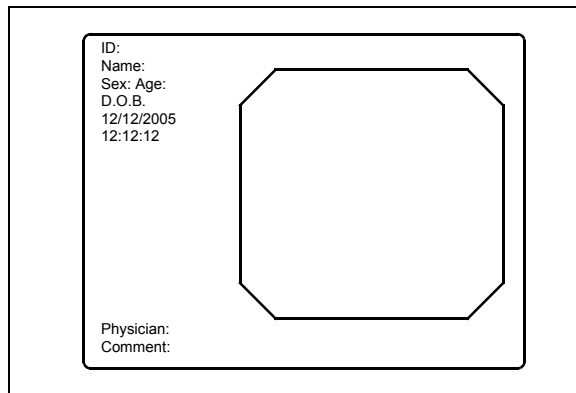

Figure 9.1
2. Confirm that the endoscopic image appears on the monitor (see Figure 9.1).